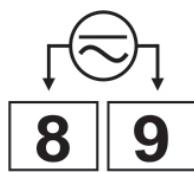

Figure 12 – 100~240 Vac/dc Model
- **RTD (Pt100):** Figure 12 shows the connection mode for the 3-wire Pt100. You should use conductors of the same gauge and length to compensate for cable length. For 4-wire Pt100, you must leave one conductor disconnected at the controller. For 2-wire Pt100, use short-circuited terminals 1 and 2.